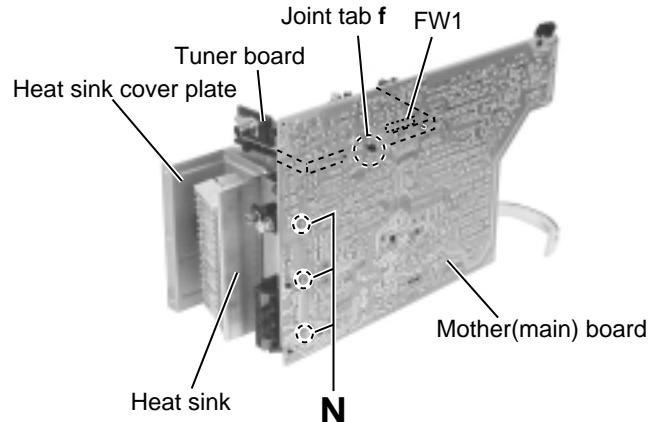

Fig.18
(See Fig. 18 to 20)
- Release the joint tab **f** of the tuner board holder and the mother(main) board, and disconnect connector FW1 connected to the mother(main) board. Remove the tuner board assembly (Refer to Fig.18).